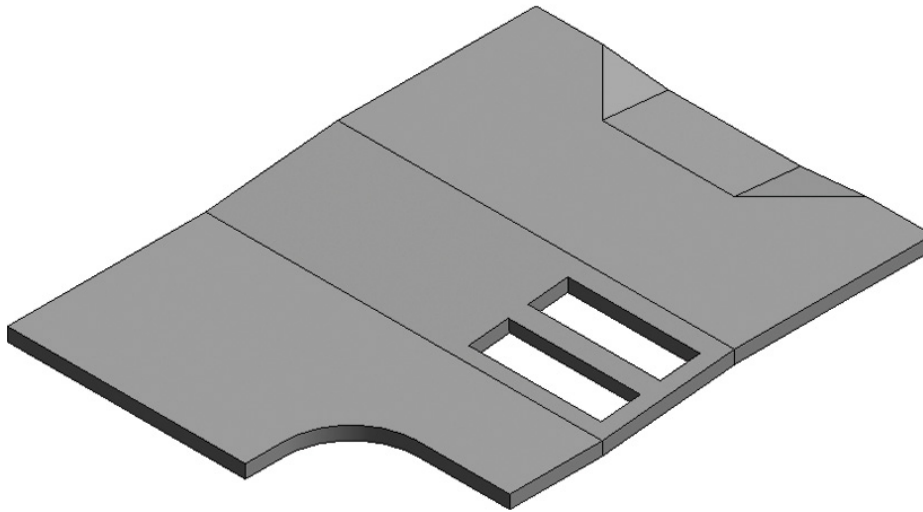

FIGURE 3.12 Sketch a new opening of the same size and dimensions
3. Select the Vertical tool from the Opening panel, and sketch a new opening of the same size and dimensions above the first one. The result resembles Figure 3.12.